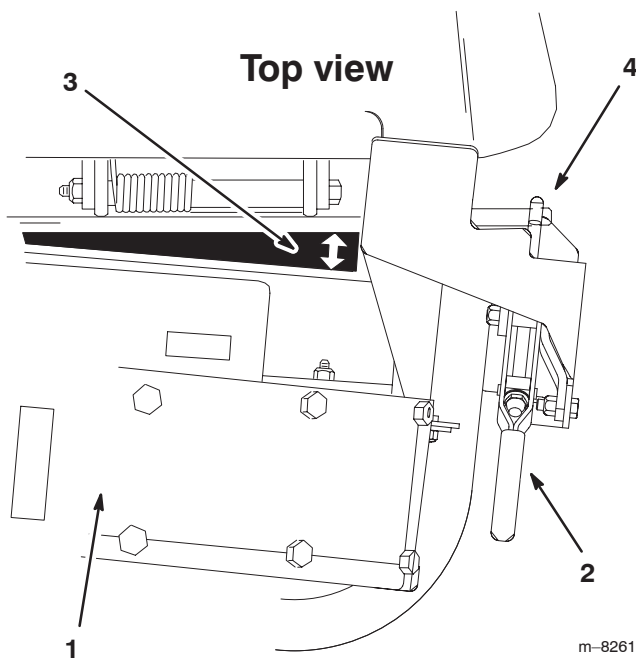

Figure 34
3. There must not be a gap between the mounting plate and the blower assembly (Fig. 34). If there is a gap, proceed to item 5 of this procedure and shorten the latch.